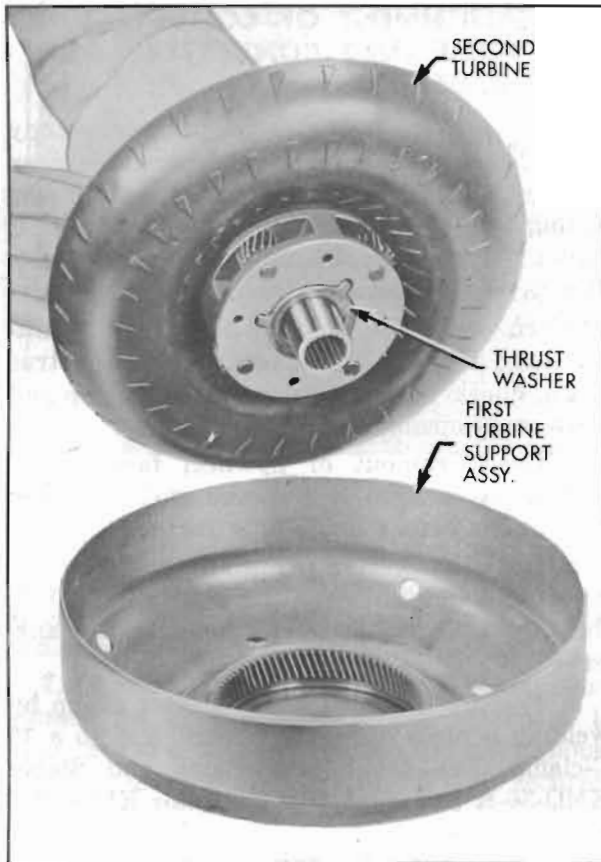

Figure 5-60—Installing Second Turbine in First Turbine Support
9. Place tanged thrust washer on forward face of second turbine carrier. Hold in place with chassis lube if necessary. See Figure 5-60.
turbine support and ring gear assembly. See Figure 5-60.
8. Mount dial indicator and Hole Attachment KMO-30-F to bear against inner edge of pilot hole in housing. See figure 5-60. Run-out of pilot hole should not exceed .004".